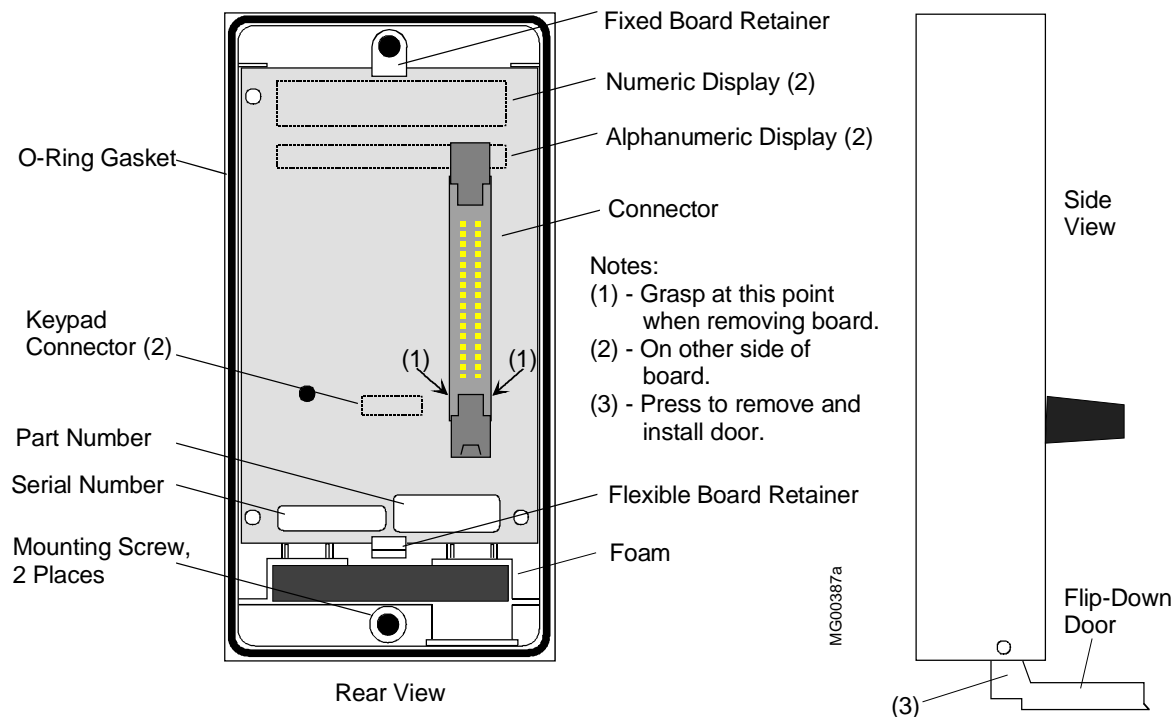

FIGURE 13-3 Local Faceplate
4. Refer to the Faceplate and Figure 13-3 below. Notice that the circuit board is captured by a Fixed Retainer at the top of the Faceplate and a Flexible Retainer at the bottom of the Faceplate. Grasp the body of the black connector at "A" and at the same time press the Flexible Retainer downward slightly. Pull gently on the connector to lift the bottom edge of the board above the Flexible Retainer.